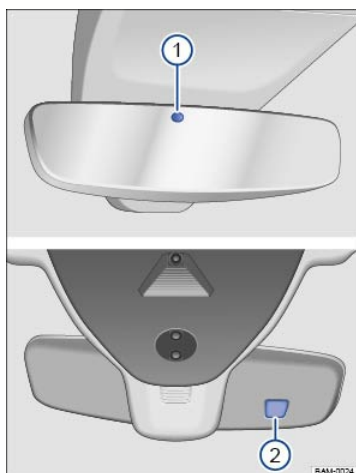

Fig. 96 On the windshield: Self-dimming rearview mirror.
When the ignition is switched on, the sensors on the mirror measure the amount of light shining into the vehicle from the rear ⇒ Fig. 96① and from the front ⇒ Fig. 96② of the vehicle.